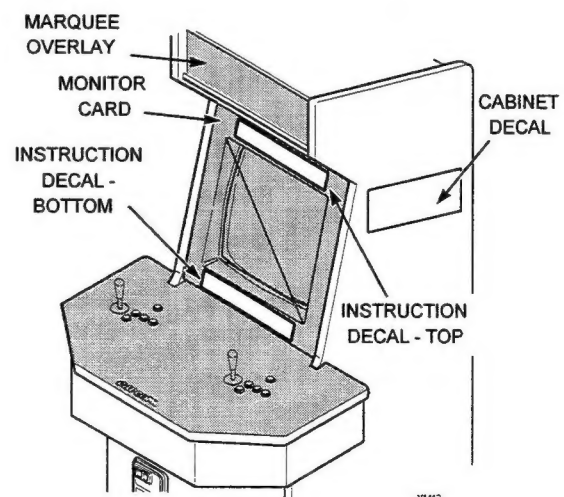

Figure 2: Cabinet Decal Installation
16. Peel-off the backing to the instruction decals and place on both the top and bottom of the monitor card. (See Figure 2). Also, apply the cabinet decals to both sides of the cabinet.